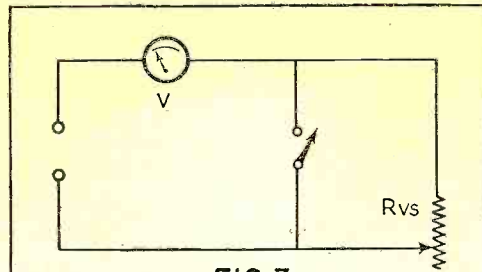

FIG. 3
**METHOD 3:** Substitute a fixed resistance (Rs) of known value for Rvs in Figure 3. Apply a voltage with the switch closed, note the reading on V and call this reading V1. Now open the switch and note the new reading on V and call this reading V2. Then the formula is:  $R_t = R_s \div [(V_1 \div V_2) - 1]$ . Formula Rs is the value of the fixed resistance which we substituted for Rvs.